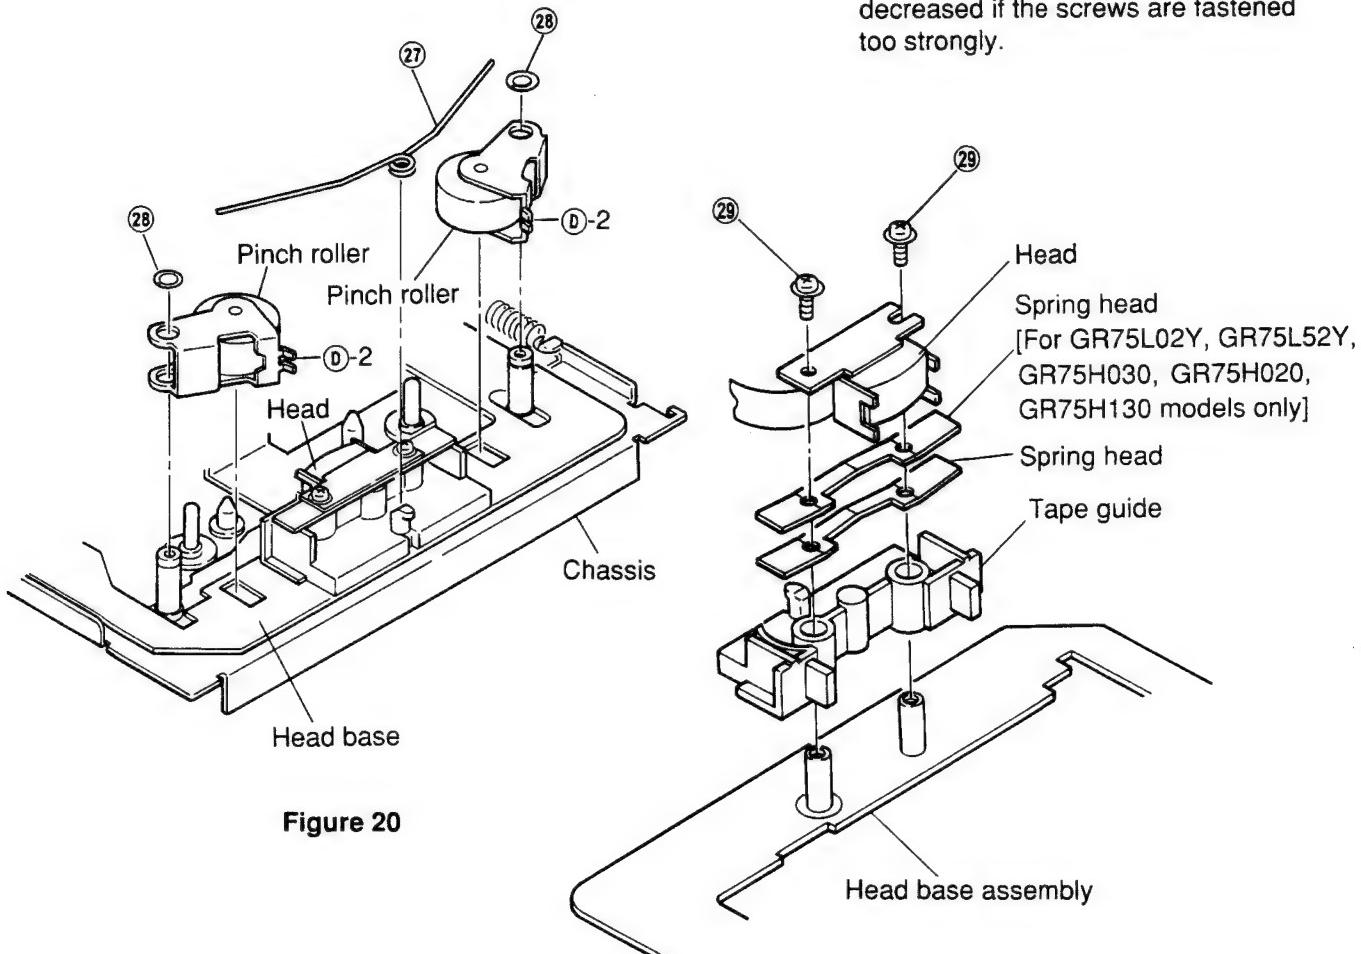

Figure 20
- (1) Remove pinch roller spring ② as shown in Figure 20.
- (2) Remove M3.1 two lock washers ⑧ and remove the pinch roller as shown in Figure 20.
- (3) Mount the pinch rollers following the removal steps in the reverse order.
Apply insulation coating to the position ⑩-2 of the pinch roller as shown in Figure 20.